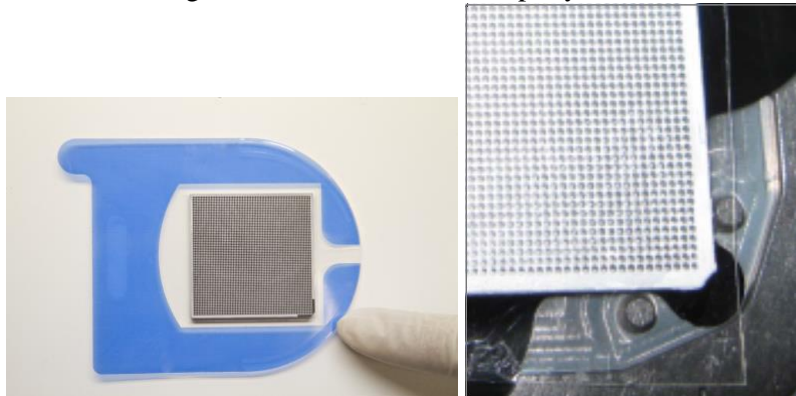

Figure 51. Peel the blue backing from the sealed chip and place it in the SmartChip ND Cycler.
- Peel away the blue backing from your sealed SmartChip Panel or MyDesign Chip to expose the adhesive patches. Place it in the SmartChip ND Cycler with the beveled edge in the lower right corner as shown in Figure 51. Make sure the chip lays flat in the SmartChip holder.